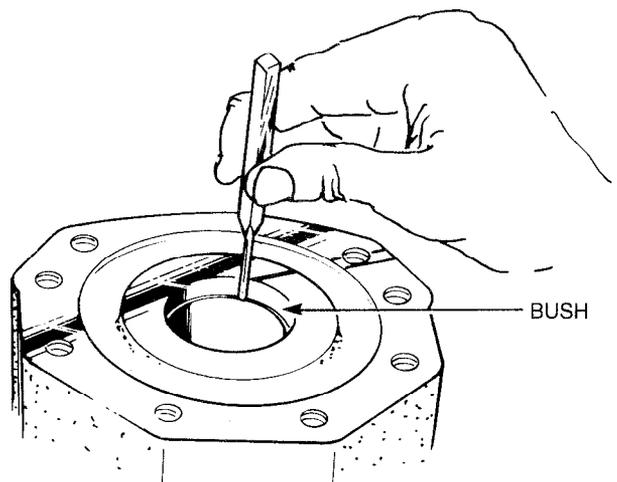

Figure 281 — Bronze Bush — Removal
- z. Using a suitable pin punch and hammer drive the bronze bush out of the housing, by tapping alternate sides of the bush until the bush is removed (see Fig. 281).